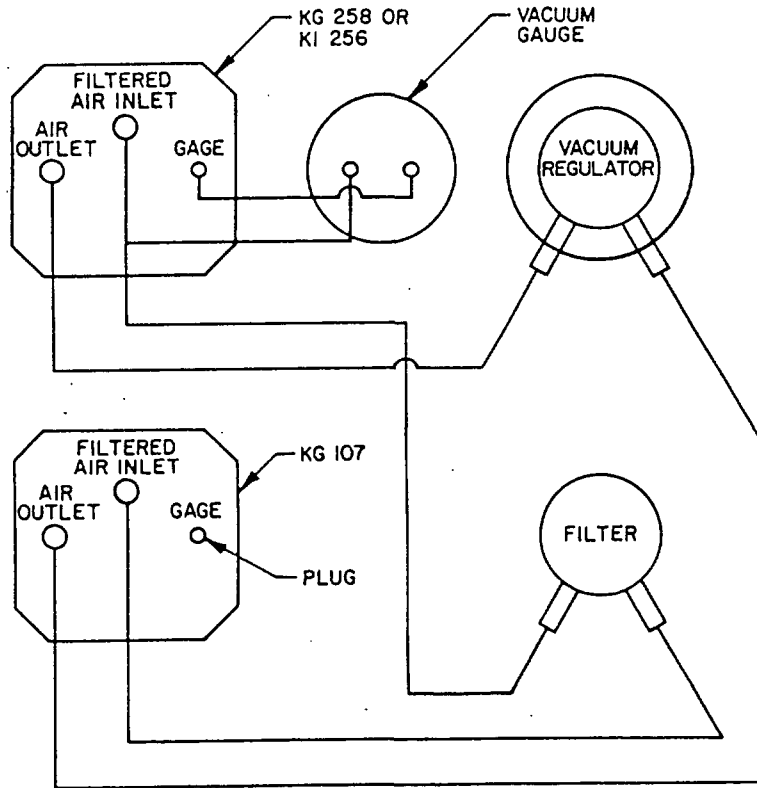

FIGURE 2-B KG 107, KG 258, KI 256 PNEUMATIC PLUMBING
- C. The KG 107 is plumbed in the same manner as any air driven DG. The ports for vacuum are located on the rear of the unit. The inlet port is clearly marked as such. Use the existing plumbing and hardware to connect the pneumatic gauge lines to the proper fittings. Figure 2-B is used to plumb the gyro to the airplane's existing vacuum system.